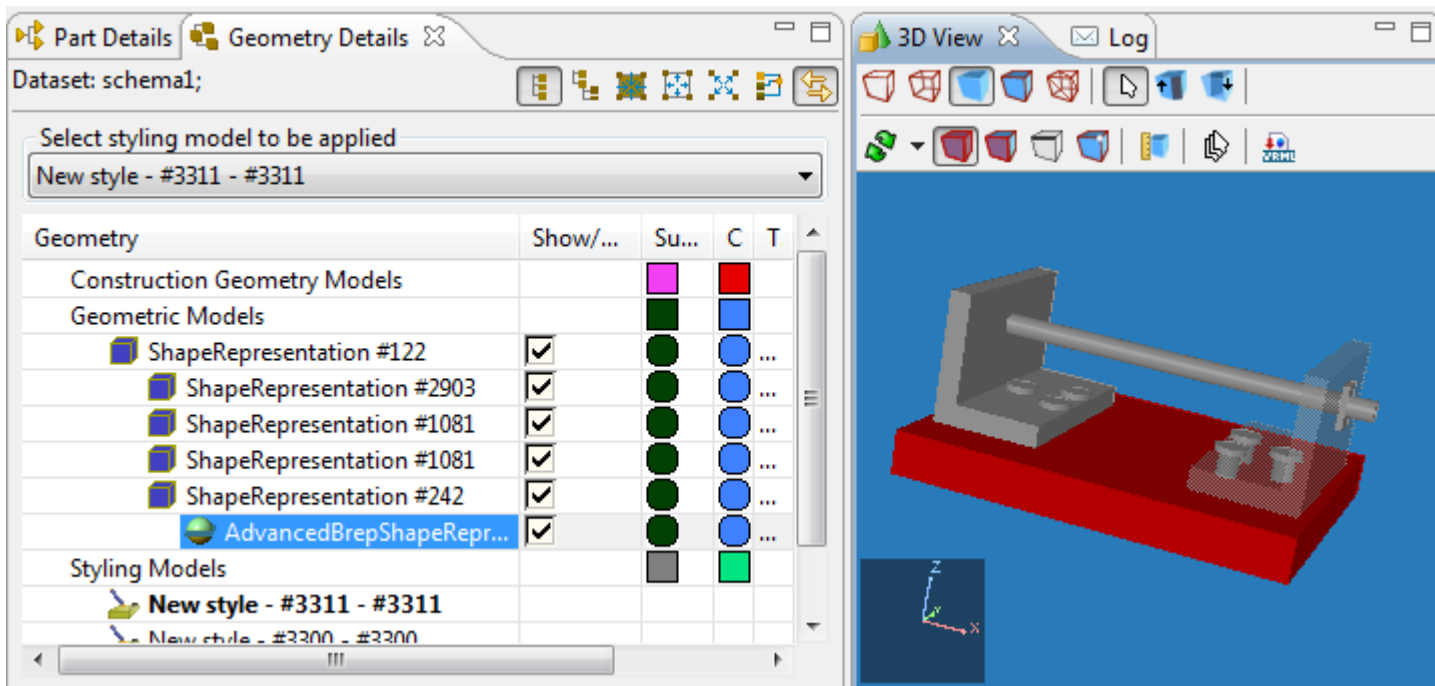

Figure 6. Picked component in 3D View is highlighted in Geometry Details view hierarchy
- Clicking on an applicable component in the  **3D View** (being in smart or picking mode), highlights the particular component node in the  **Geometry Details** view (see Figure 6).